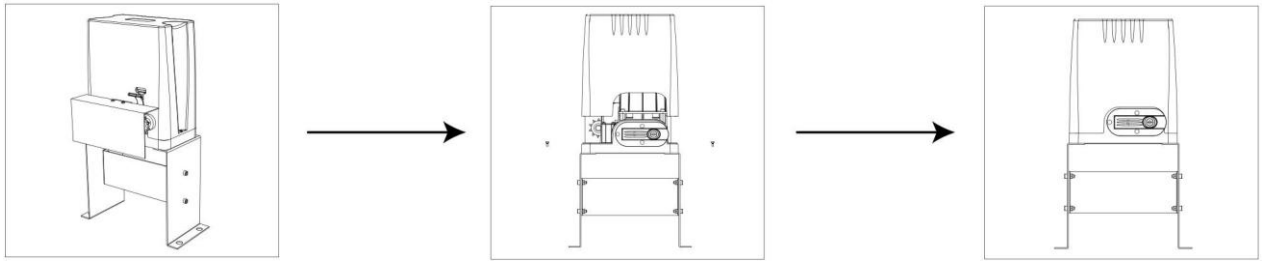

Figure 7
- Remove the rubber grommet below the limit switch (Figure 7).